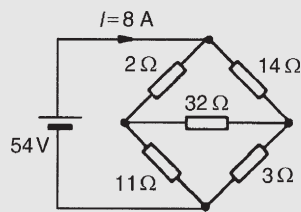

Figure 13.9
**Problem 4.** For the bridge network shown in Fig. 13.9 determine the currents in each of the resistors.